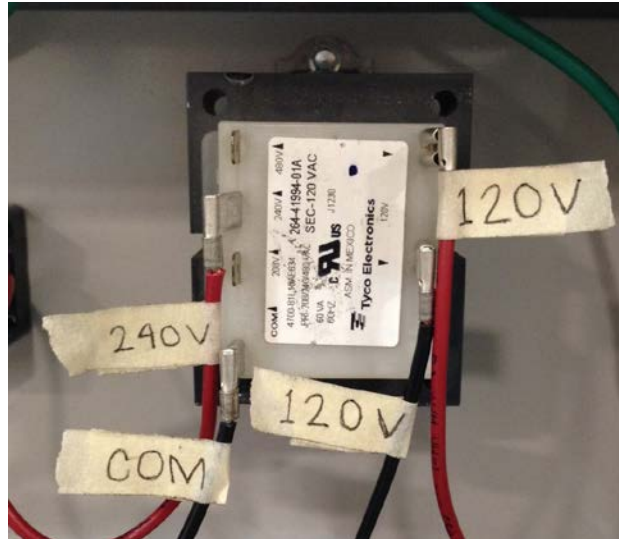

Figure 9. Labeled Transformer Connections
2. Using the masking tape, label the 4 wires connected to the transformer with the appropriate connection (see Figure 9 which is shown as a 240V connection (as an example). Keep in mind that the 240V wire may be connected to the 208V or 480V connection based on the initial configuration of the water heater).